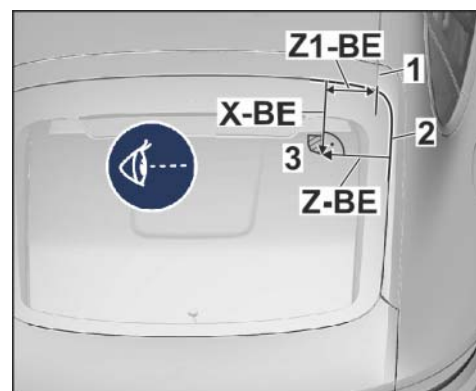

Figure 14
3.1.1 Copying dimensions to rear window ⇒ Figure 14